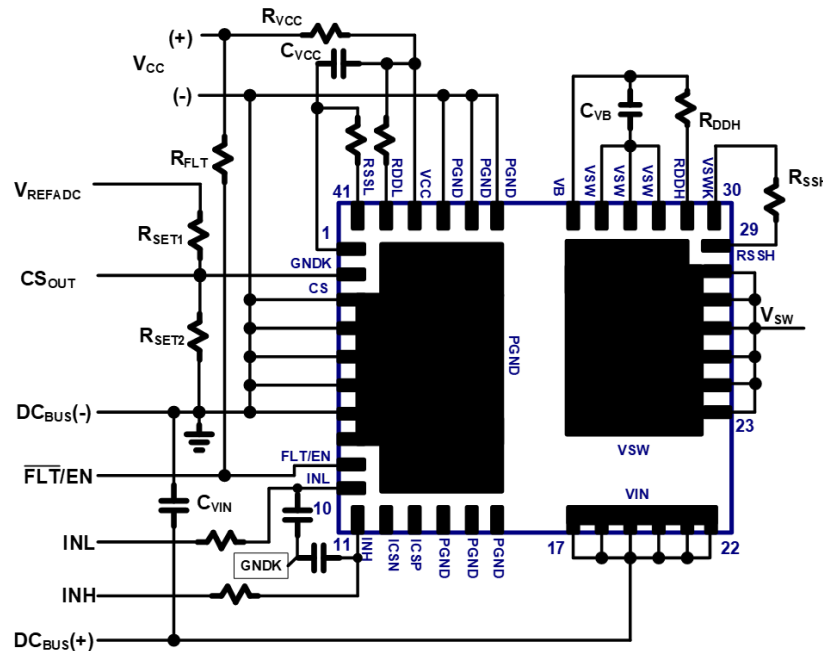

Fig. 23. IC connection diagram
The typical connection diagram for this GaN Half-Bridge IC is shown in Fig. 23. The IC pins include the drain of the high-side GaN power FET (V_{IN}), the half-bridge mid-point switched node (V_{SW}), the source of the low-side GaN power FET and IC GND (P_{GND}), low-side IC supply (V_{CC}), low-side turn-on dV/dt control (R_{DDL}), low-side turn-off dV/dt control (R_{SSL}), low-side referenced PWM inputs (IN_L , IN_H), low-side current sensing output (CS), \overline{FLT}/EN pin for enabling the device and internal fault detection, high-side supply (V_B), high-side turn-on dV/dt control (R_{DDH}), high-side turn-off dV/dt control (R_{SSH}). The external low-side components around the IC include V_{CC} supply capacitor (C_{VCC}) connected between V_{CC} pin and P_{GND} , turn-on dV/dt set resistor (R_{DDL}) connected between V_{CC} pin and R_{DDL} pin, turn-off dV/dt set resistor (R_{SSL}) connected between the R_{SSL} pin and the $GNDK$ pin, current sense amplitude set resistors ($R_{SET1/2}$) connected between CS pin, V_{REFADC} and P_{GND} , and the \overline{FLT}/EN pull-up resistor (R_{FLT}) connected to V_{CC} for enabling the device and for internal fault detection. The external high-side components around the IC include V_B supply capacitor (C_{VB}) connected between V_B pin and V_{SW} , V_{DDH} supply capacitor (C_{VDDH}) connected between V_{DDH} pin and V_{SW} , turn-on dV/dt set resistor (R_{DDH}) connected between V_B pin and R_{DDH} pin, turn-off dV/dt set resistor (R_{SSH}) connected between the R_{SSH} pin and the V_{SWK} pin. The high side V_B bypass capacitor must be chosen carefully to accommodate various system considerations such as high side wake up time and high side hold up time.